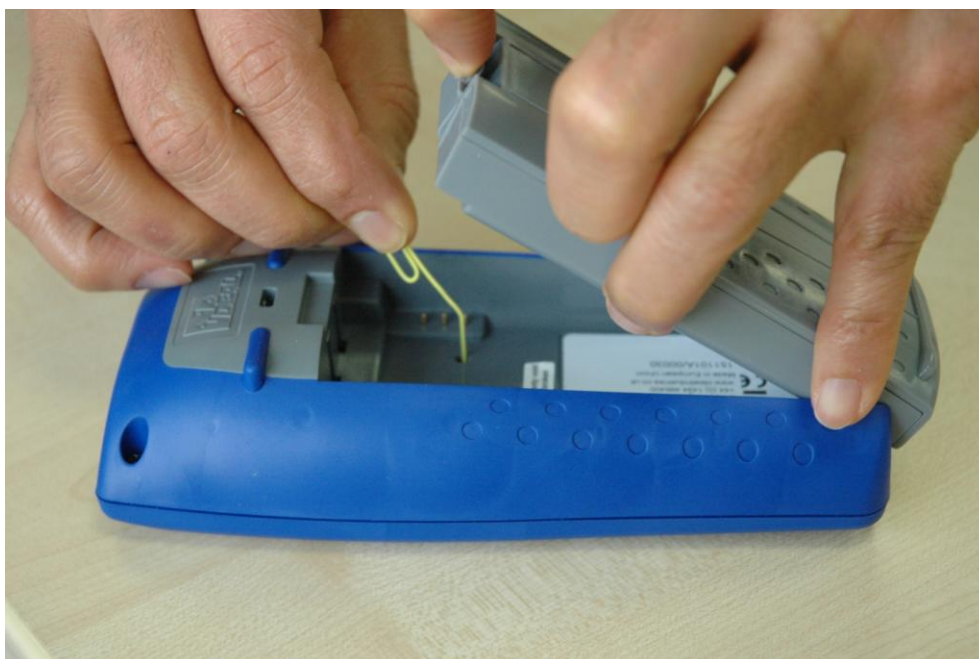

Fig 3
- Remove the power module or battery pack to access a small aperture in the SignalTEK II (Fig 3).